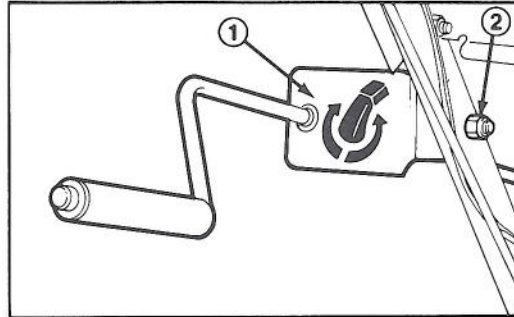
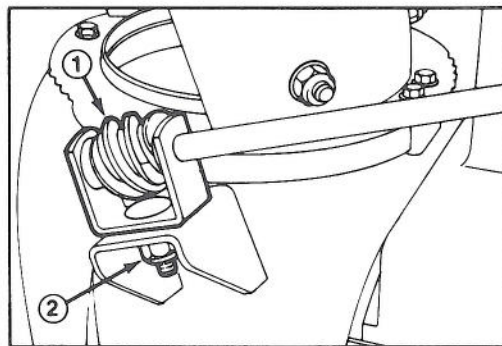

Figure 9
Figure 10
1. Assemble chute control bracket and rod to left side of handle with cap screw and locknut. Leave locknut loose until assembly is completely mounted (Fig. 9).
2. Apply No. 2 general purpose grease to worm gear. Mount worm gear and bracket to mounting flange and secure with pyramidal washer and locknut (Fig. 10).
3. Slide worm gear into teeth of chute retaining ring and tighten locknut (Fig. 10). Then, tighten locknut to secure chute control bracket against left handle (Fig. 9).